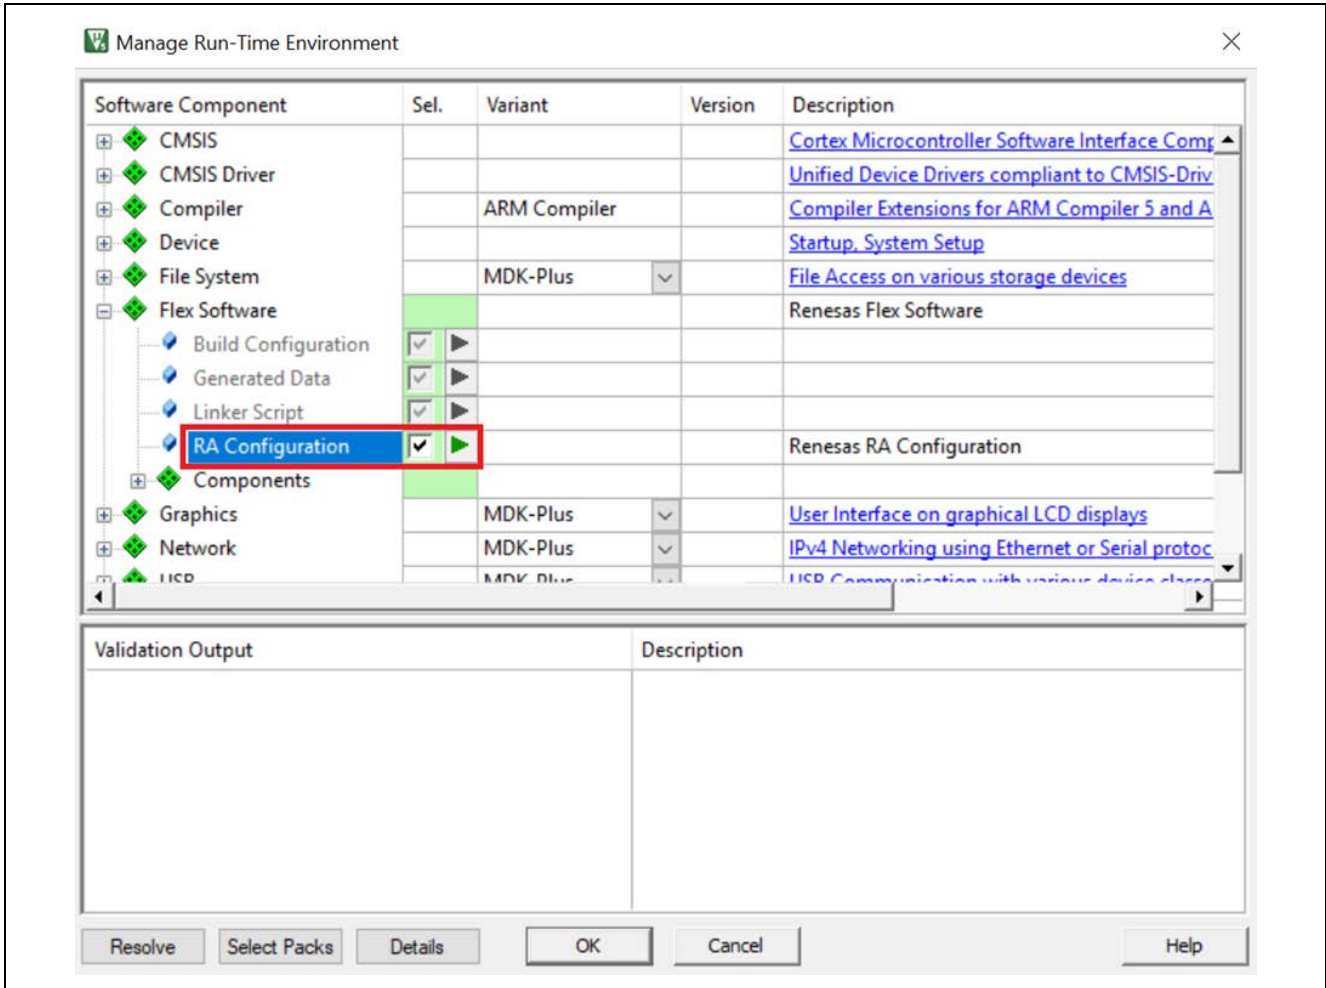

Figure 15. Clicking the Green Button for RA Configuration in the Flex Software Tree
5. Click the green run button next to **RA Configuration** in the **Flex Software** tree as shown in Figure 15.